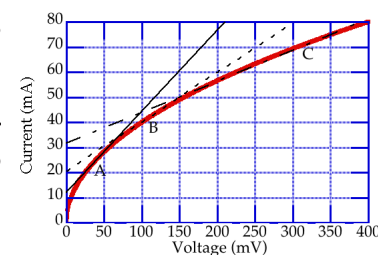

Figure 2-7 Slope Resistance
By drawing tangent lines carefully, we can measure the values of the resistance at various points as shown in Figure 2-7.
2. Find the slope resistance at point B on the graph of Figure 2-7.